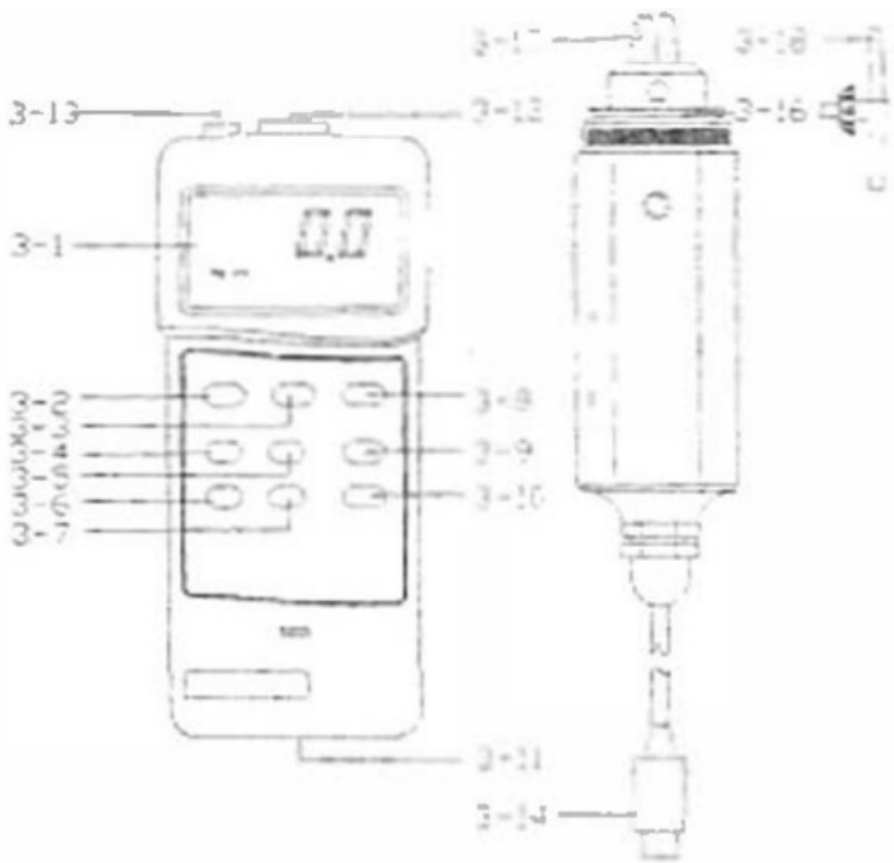

Fig. 1
1. Plug in the " Sensor Cable Plug " (3-14, Fig. 1) to meter's " Sensor Input Socket " (3-12, Fig. 1).
2. Power on the meter by push the " Power Button " (3-2, Fig. 1)
3. Push the " Sensor Type Button " (3-8, Fig 1) to check if the meter's sensor type is same as the external torque sensor.
Push the " Unit Button " (3-5, Fig. 1) to select the unit Kgf-cm, LBf-inch or N-cm (Newton-cm).
Push the " Resolution Button " (3-7, Fig. 1) to select the High resolution or Low resolution.
The " Fast/Slow Button " (3-10, Fig. 1) is used to select the fast sampling time or slow sampling time.
7. To connect the " Cramp " (3-17, Fig. 1) to the measured installation and use the " Opinion " (3-18, Fig. 1) to lock the " Gear " (3-16, Fig. 1). Ref. Fig. 2 & Fig. 3.
Before the measurement, if the meter not show zero value, it can push the " Zero Button " (3-9, Fig. 1) to tare the display value, the LCD will change to zero value.
During the measurement, push the " Peak Button " (3-6, Fig. 1), the LCD will show the " PEAK " indicator & the display will hold the peak value.
During the measurement, pushing the " Hold Button " (3-3, Fig. 1) will freeze the measured value & display will indicate " HOLD " symbol. Push the " Hold Button " again to release the data hold function.
* The DATA RECORD function displays the maximum and minimum readings. To start the DATA RECORD function, press the " Max./Min. Button " (3-4, Fig. 1) once. " REC " symbol will appear on the LCD display.
(a) Push the " Max./Min. Button " (3-4, Fig. 1) once, the " Max " symbol along with the maximum value will appear on the display.
To disable this feature, Select the memory record function during measurement, by pressing the " Max./Min. " button (3-4, Fig. 1).
The instrument features an RS232 output via 3.5 mm Terminal (3-13, Fig. 1).
2. Slide the Battery Cover (3-11, Fig. 1) away from the instrument and remove the battery.